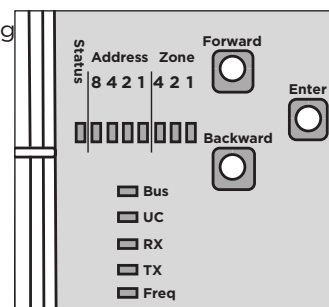

Figure 5: Learn In LEDs and Buttons
- d. Connect the black wire to the **GND(B)** terminal while pressing the Enter button. See Figure 5. This clears the translator's memory and prepares it for programming.
The 738T allows you to easily switch between 319.5 MHz and 345 MHz by pressing the **Enter** button on the PCB. Use the **Freq** LED to determine which frequency is currently selected. See Figure 5 for the button and LED locations.
1. Get the 738T ready to learn in transmitters by pressing the **Forward** and **Backward** buttons at the same time. See Figure 5. The **Address** LEDs will light up, displaying an address. Addresses 1-15 are available. The default is address 5.